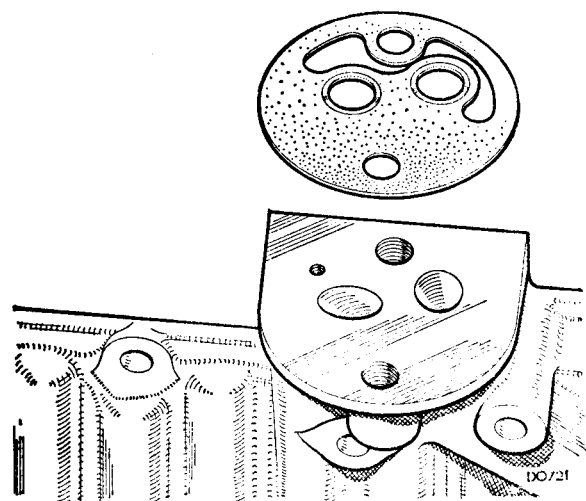

Fig. Aa.2
**NOTE.**—The oil filter head to front cover joint washer (with copper inserts) fitted to later units is **not** interchangeable with those fitted to the earlier units. The two 'O' ring oil seals are not used on the later units (see Fig. Aa.2 for correct location of the later-type joint washer).